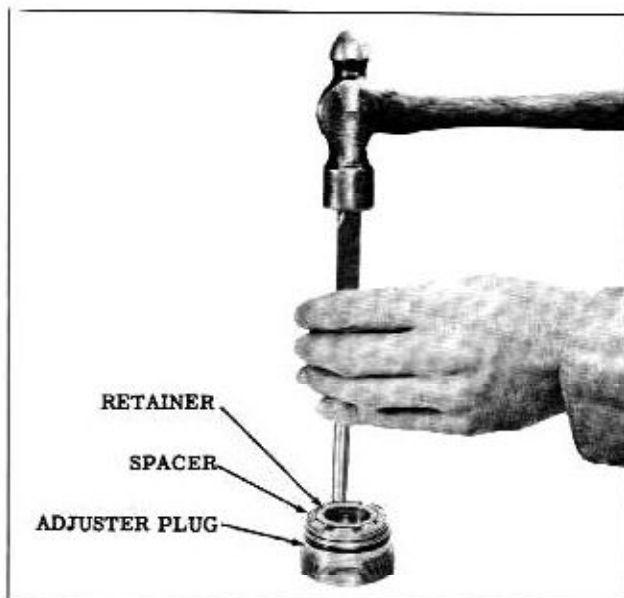

Fig. 4-50 Installing Bearing Retainer
5. Install a new bearing retainer on the adjuster plug by carefully tapping on the flat surface of the retainer. (Fig. 4-50)